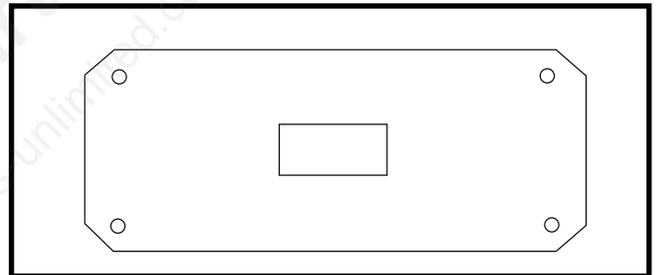

Figure 7.7 Restrictor with Small Cut-Out
3. Replace existing restrictor with small cut-out restrictor in manual bag for installations with more than 6-1/2 ft. (2 m) of vertical piping. See Figure 7.7.